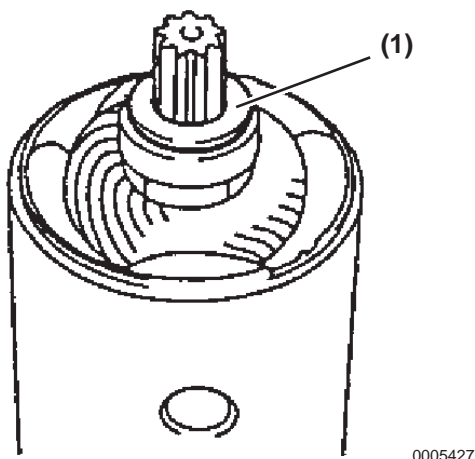

Figure 10-39
10. Install a new felt washer (**Figure 10-39, (1)**) to the armature.